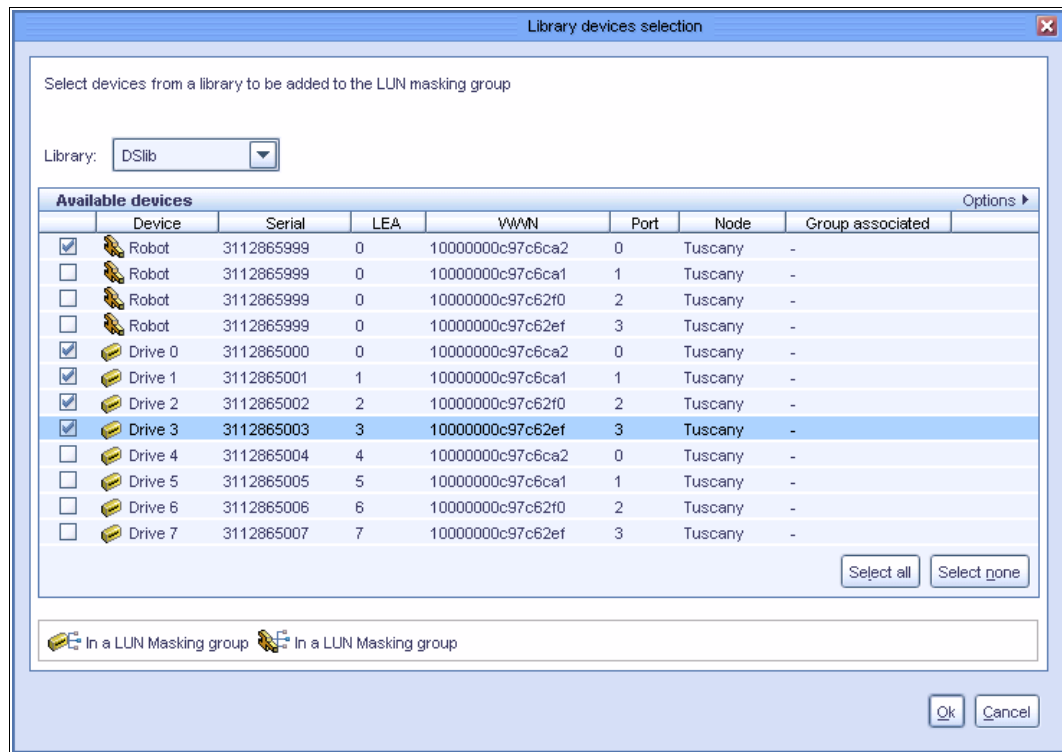

Figure 6-16 Library devices selection window
10. The Library devices selection window opens, as shown in Figure 6-16. A list of libraries in the system is displayed in the Library drop-down list. Select the relevant libraries from the list. Select the tape robot and drives that you want to add to this group and click **OK**.